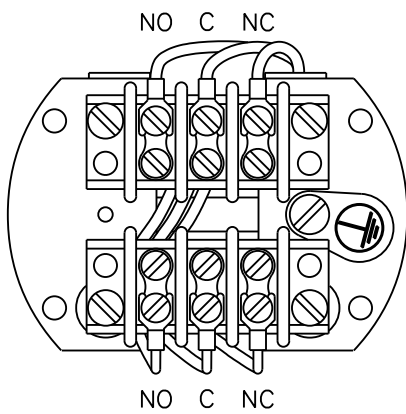

Figure 5
2. Pull in supply wires and connect to the proper terminals, **Figure 5, 6, 7 & 8**. Please note that some switches are reverse acting. Be sure to connect to proper terminals according to wiring diagrams.
5. If the switch mechanism does move freely, use an electrical continuity checker to determine if the switch is electrically functional. Refer to **Figures 5, 6, 7 & 8** on page 6 for the appropriate wiring diagram. If the switch operates properly when moved mechanically but not when electrically activated, the switch must be replaced.